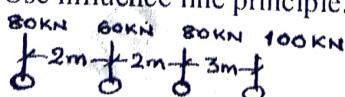

Fig.Q.10(b)
- b. A simply supported beam shown in Fig.Q.10(b) is subjected a set of four concentrated loads which move from left to right. Determine: i) Maximum bending moment and shear force at a section of 6m from left support ii) Absolute maximum shear force and absolute maximum bending moment. Use influence line principle. (16 Marks)